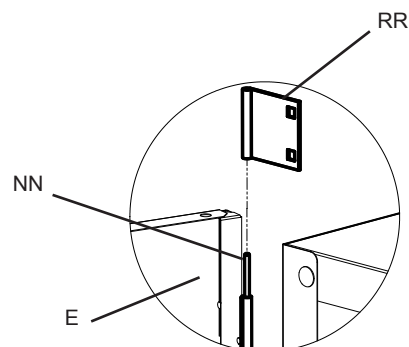

Figure 9.1
- Slide the hinge Plate RR onto the upper door hinge pin NN. (Figure 9.1)
- Attach the left door E by mounting the upper hinge RR, using (2) AA, (2) CC and (2) DD.